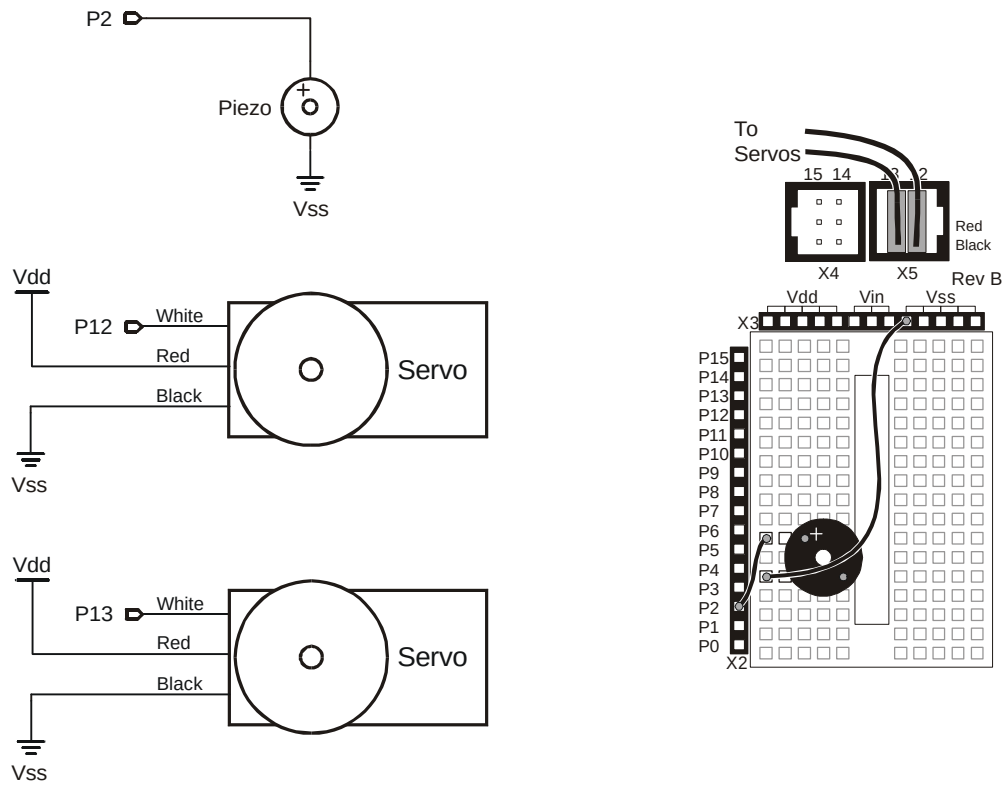

Figure 2.2 (a) Schematic
Figure 2.2 shows the piezospeaker and servo schematics along with a wiring diagram.
- ❑ Build the circuit as shown in Figure 2.2 (b).
The instructions in all activities from this point forward will assume your servos are plugged in as shown in Figure 2.2 (a) and (b).